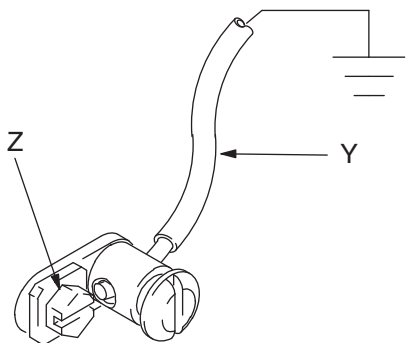

FIG. 1
**Pump:** Use a ground wire and clamp as shown in FIG. 1.
**To ground the pump:** Remove the ground screw (Z) and insert through the eye of the ring terminal at end of ground wire (Y). Fasten the ground screw back onto the pump and tighten securely. Connect the other end of the ground wire to a true earth ground. See FIG. 1. To order a ground and wire clamp, order Part No. 222011.